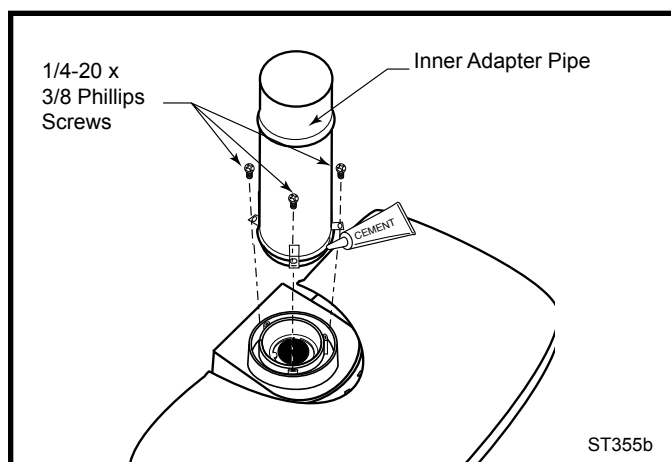

Figure 21 DuraVent - install inner adapter pipe.
- Run a bead of sealant around the bottom end of the starter pipe and attach the assembly to the stove using three 1/4-20 x 3/8" Phillips screws provided in the parts bag. (Figure 21)